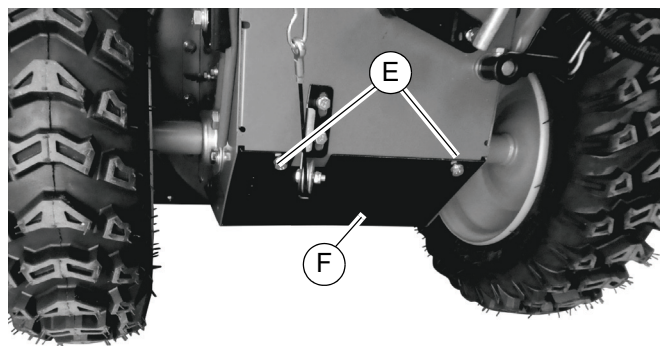

Figure 4-7. Transmission Cover Bolts Location
3. See **Figure 4-7**. Remove the two bolts (E) securing transmission cover (F) using a 10mm wrench.